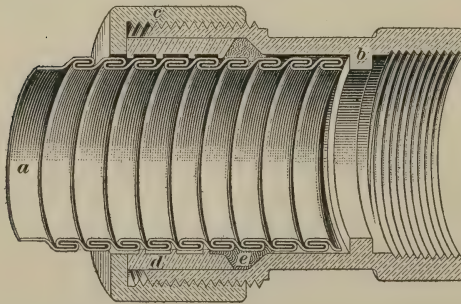

FIG. 4
**16.** Fig. 4 shows a flexible metallic tube *a* in section. It is connected to a coupling *b*, which may be screwed to an iron pipe. To connect the tube and coupling, the coupling ring *c* is slipped over the end of the tubing *a*, and then the gland *d* is screwed over the tubing. Next, some asbestos-thread packing is wrapped around the tubing